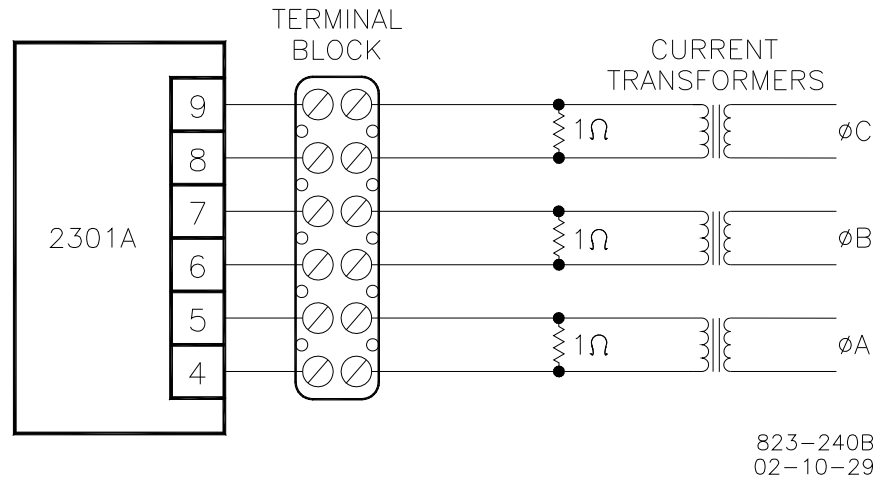

Figure 3-2. Temporary Wiring for Transformer Phase Correction
**HIGH VOLTAGE**—Never disconnect any wire attached to load sensor terminals 4 through 9 when the prime mover is running unless temporary 1  $\Omega$ , 5 W resistors are installed as shown in Figure 3-2, and all load is removed. The current transformers can develop dangerously high voltages when open circuited while the prime mover is running.
The Phase Correction Procedure requires that the prime mover be shut down many times to disconnect the current transformers. For convenience, a temporary method of connecting the current transformers shown in Figure 3-2 is recommended. Connecting a 1  $\Omega$ , 5 W burden resistor across each current transformer allows the current transformers to be disconnected from the terminal strip with the prime mover running, after removing all load.
**HIGH VOLTAGE—The current transformers can develop dangerously high voltages. Do not disconnect a current transformer while the prime mover is running unless temporary 1  $\Omega$ , 5 W resistors are installed as shown in Figure 3-2, and all load is removed.**
If the temporary burden resistors described above and shown in Figure 3-2 are not used, the prime mover **MUST** be shut down in addition to removing the load in the following procedure.